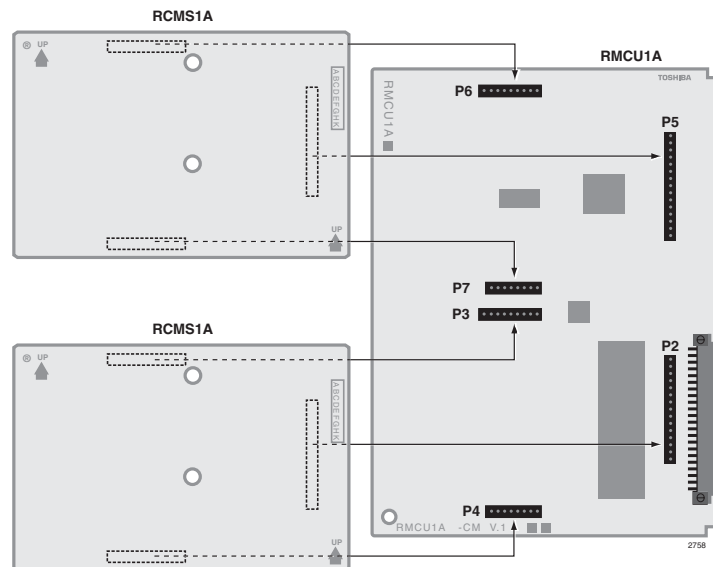
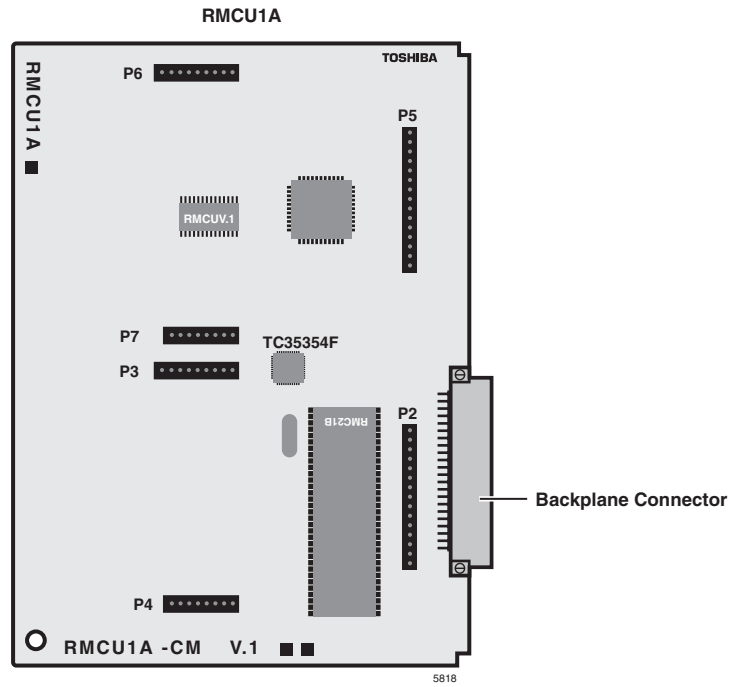

Figure 6-27 Placement of RCMS Subassemblies on the RMCU Interface Card
Figure 6-29 RMCU Interface Card
The E911 CAMA Trunk Direct Interface card (RMCU) enables cost-effective connection to the Enhanced 911 locator services without third-party equipment. Figure 6-29 shows the RMCU. The RMCU supports two subassemblies (RCMS) that provide a total of up to four ports as shown in Figure 6-27. Only one RMCU PCB can be installed in a Strata CTX670 system.
1. Attach one or two subassemblies (RCMS) to the connectors on the RMCU as shown in Figure 6-27. If only one RCMS is to be installed, install it in the bottom position.